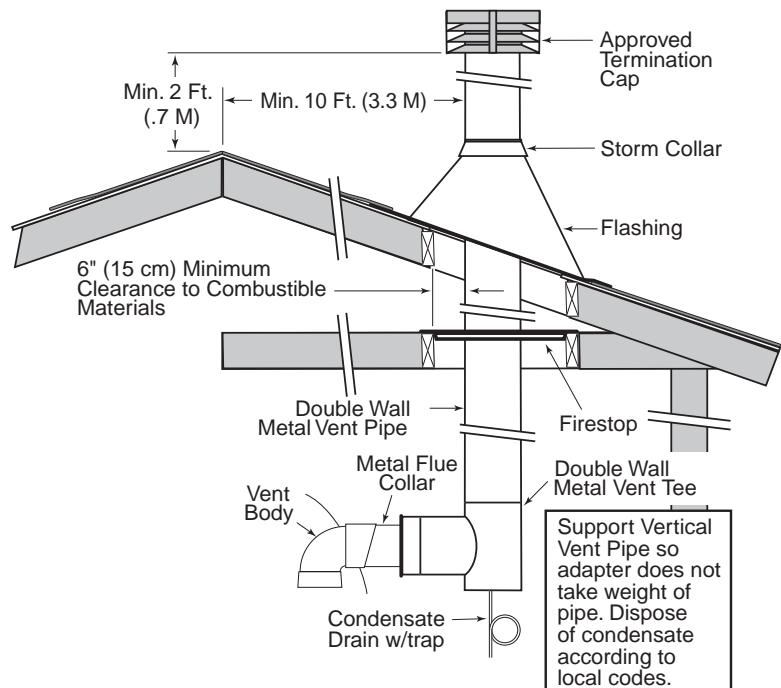

Figure 14. – Typical Metal Vent Pipe Installation (Vertical Venting)
6. **Vent Termination – Vertical** (See Figures 14, 15 and 16), for height of vent termination above the roof. Use an "Approved" vent terminal specified by local and national codes and your manufacturer's instructions. A roof termination must be vertical.